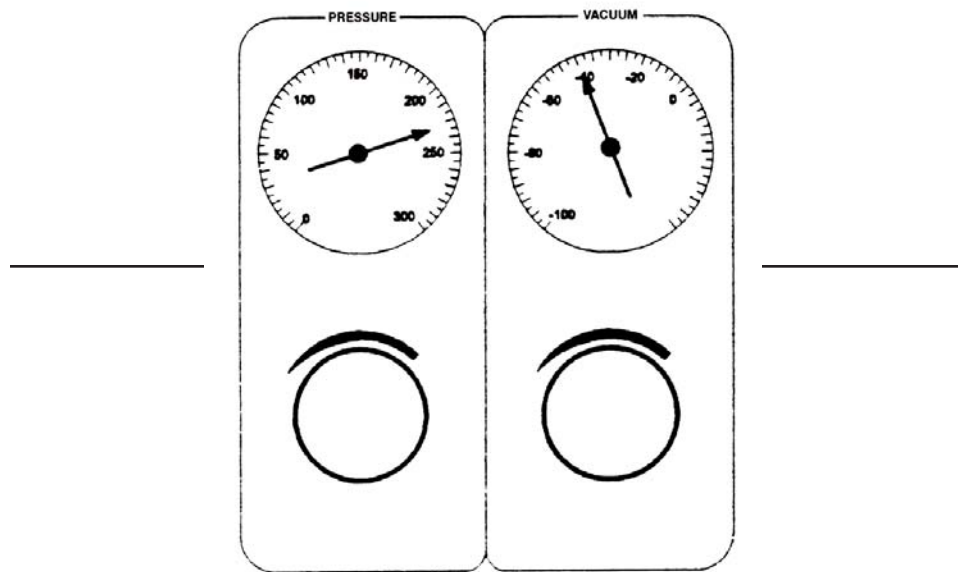

Figure 8 Pressure and Vacuum Gauges
- 1 Turn regulator knob (located below the Pressure Gauge) **(Figure 8)** *clockwise* to *increase* eject pressure.
- 1 Turn regulator knob (located below the Vacuum Gauge) (**Figure 8**) *clockwise* to *increase* vacuum.